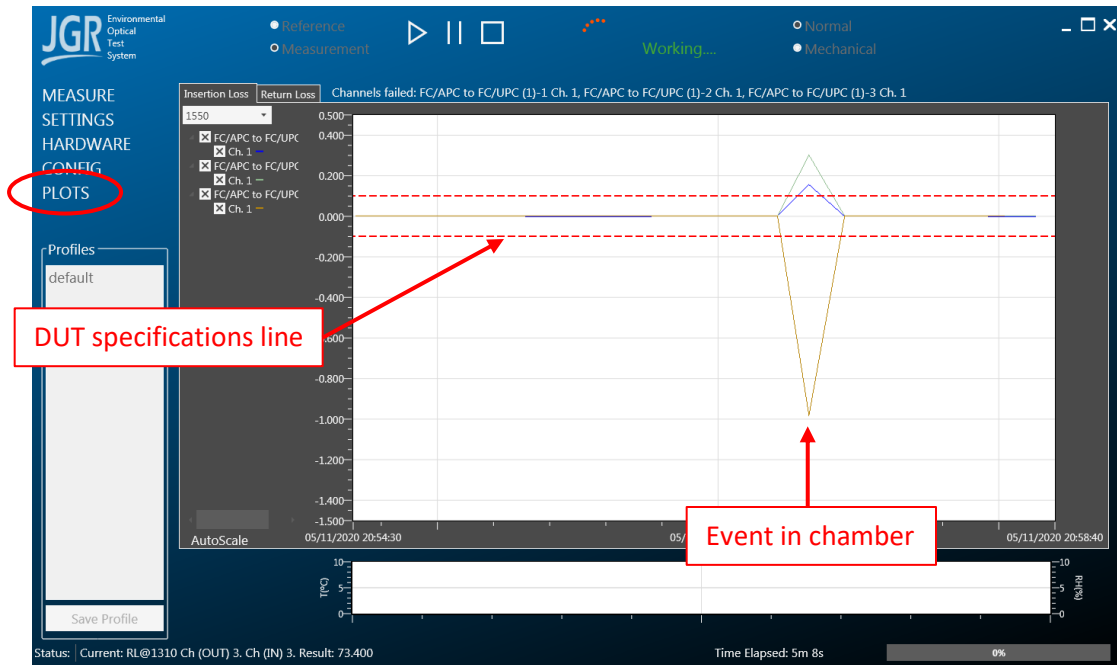

Figure 38: Real-time plots of data
- Click on *PLOTS* to view real-time graphs of the results (Figure 38).